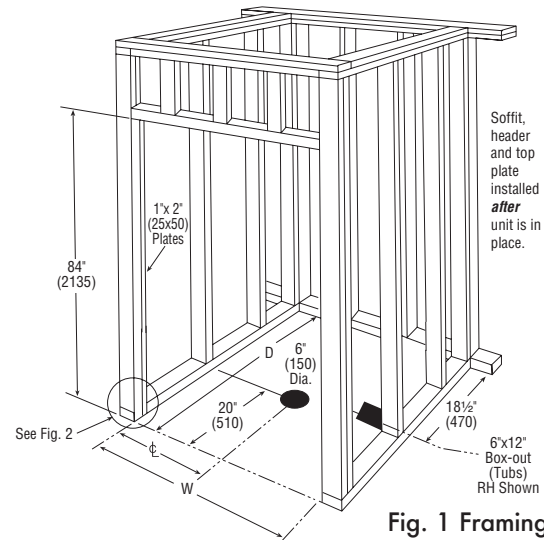

Fig. 1 Framing
- 6" (150) diameter floor opening for 2" (50) IPS and drain connection [Fig. 1] for shower unit.
- A 6" (150) x 12" (300) floor opening for 1 1/2" (40) o.d. plumbing for drain and overflow kit. [Fig. 1] **NOTE:** Be sure hole location matches type of unit: left and/or right hand tub/shower unit.
- 1" (25) x 2" (50) mounting plates installed on front corner posts and on front header [Figs. 1 & 2].
- Place unit into alcove — do not push — against 1 " (25) x 2 " (50) side mounting plates. Pushing or "walking" unit may crack or break lower corners.
- Level unit for proper drainage. Use a 3' (915) long level on top of dam and on front face. Shim where necessary to assure level unit, or depress grout mounds until level.
- Install soffit, header and 1 " (25) x 2 " (50) plate above unit, as shown in Fig. 1. Make sure plate lines up with the mounting screw holes at the top of the unit.
- Using holes provided, screw [do not nail] unit to mounting plates. For wood framework, use #8 x $1\frac{1}{2}$ " (40) flathead wood screws. For metal framework, use #8 x $1\frac{1}{2}$ " (40) sheet metal screws. Start at holes at lower left and right, proceeding upward alternately on each side and across the top. Drive screws snugly but do not overtighten. **CAUTION:** Do not nail into face of mounting flange. Do not strike flange with any tool. Striking unit may cause irreparable damage.